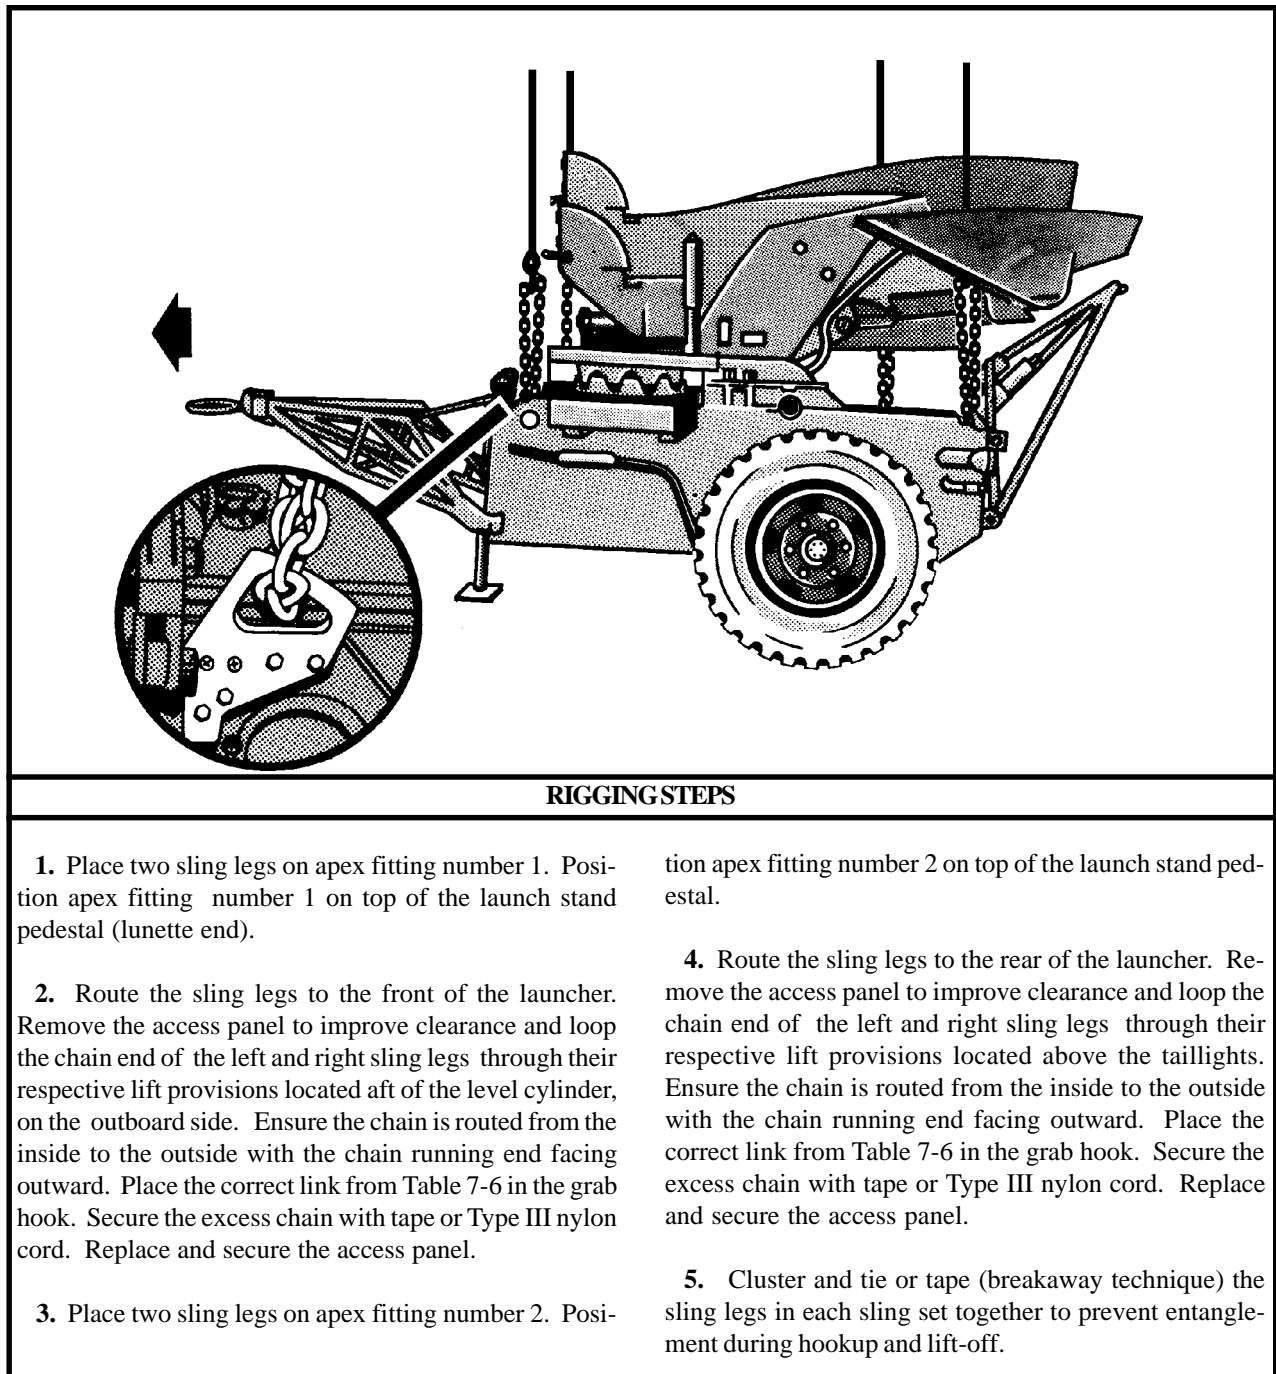

Figure 7-6. M192-1 HAWK Zero Length Missile Launcher (USMC)
(2) **Rigging.** Rig the load according to the steps in Figure 7-6.
(4) **Derigging.** Derigging is the reverse of the preparation and rigging procedures in steps d (1) and d (2).